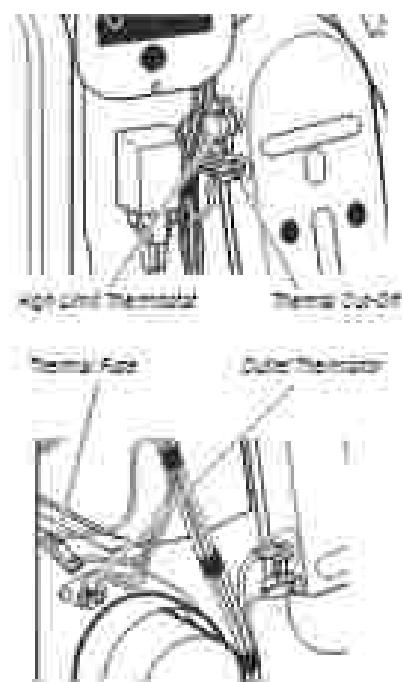

Figure 2 - Thermal components, gas dryer.
4. Disconnect the high limit thermostat (see figure 2). Measure the continuity through it by connecting the meter probes to the black and blue machine terminals.